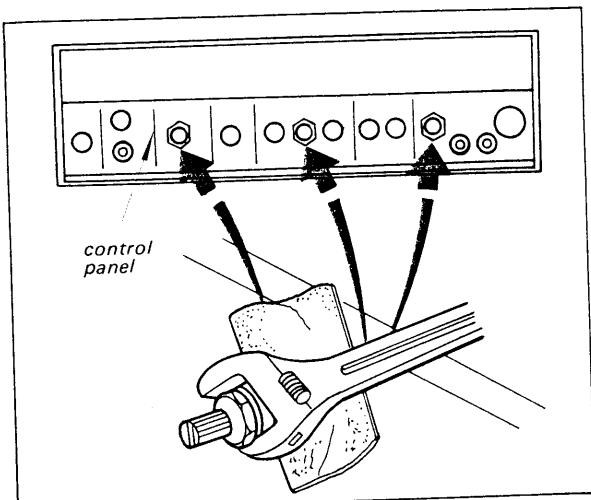

Fig. 2-3. Hex nut removal
4. Remove the three hex nuts securing FUNCTION switch and VOLUME, TREBLE control to the control panel. Place a piece of cardboard between the wrench and control panel to avoid marring the panel. See Fig. 2-3. This frees the control panel.